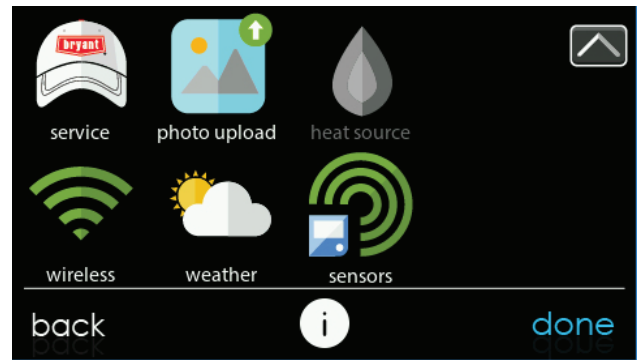
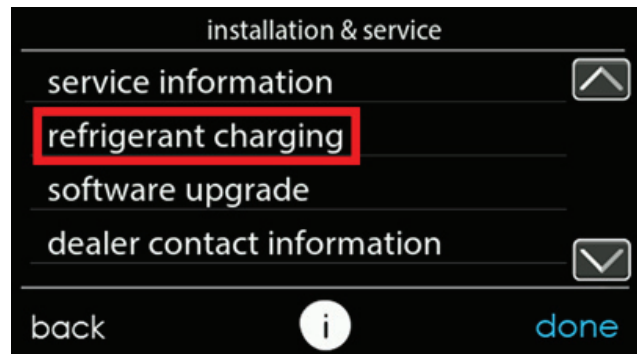

Fig. 10 – Service Icon
Fig. 11 – Select Refrigerant Charging
4. Navigate to the service area by pressing MENU from main screen (see Fig. 10). Scroll down to service icon and hold until icon turns green. Once in the "Installation and Service" menu, select "Refrigerant Charging" (see Fig. 11).
2. In the "installation and service" menu of the UI (see Fig. 10), go to "refrigerant charging" and then "pump down" (see Fig. 10 & Fig. 11).
2. In the "installation and service" menu of the UI (see Fig. 10), go to "refrigerant charging" and then "evacuation" (see Fig. 11) and Fig. 12).